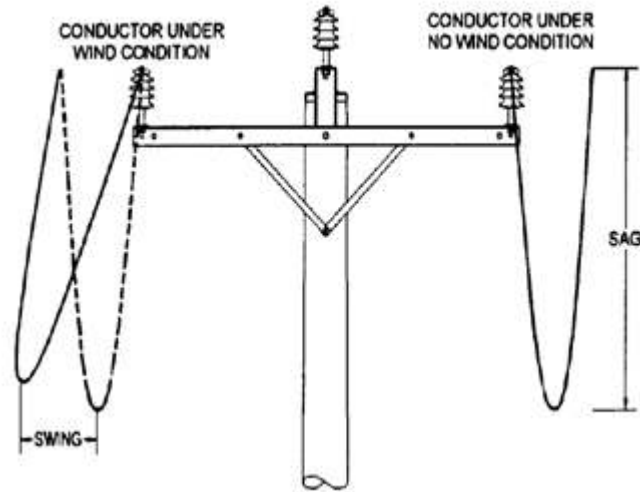
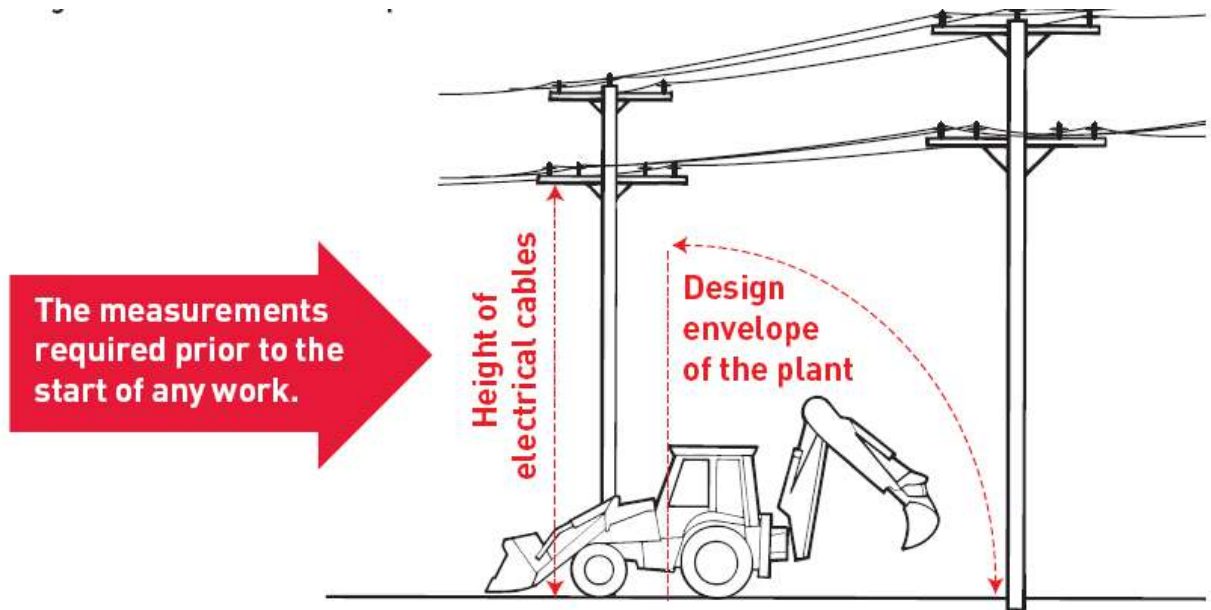

Figure 1: Example of conductor sag or swing affecting the Safe Approach Distance (SAD)
Figure 3: Measurement required for each workplace or work site
**Clearance beneath live power lines on access routes** should be controlled with 'goal posts' that need to be set-up across any access routes leading to the live power lines, with clear signage stating maximum allowable height of vehicle to safely pass beneath without encroaching on SAD(Refer to Figure 1). Where multiple live power lines cross an access, the lowest clearance height shall be considered. Goal posts should be constructed such that they alert personnel if their vehicle makes contact with them, but should not cause damage when contacted. Consideration should also be taken when locating goal posts to ensure that vehicles have a safe means of retreating from the site if found to be too high. (Refer to Figure 3)